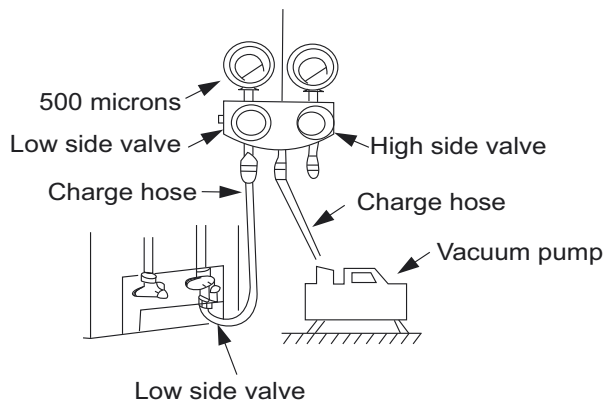

Fig. 34 —Manifold
3. Fully open the low side of manifold gage (see Fig. 34).